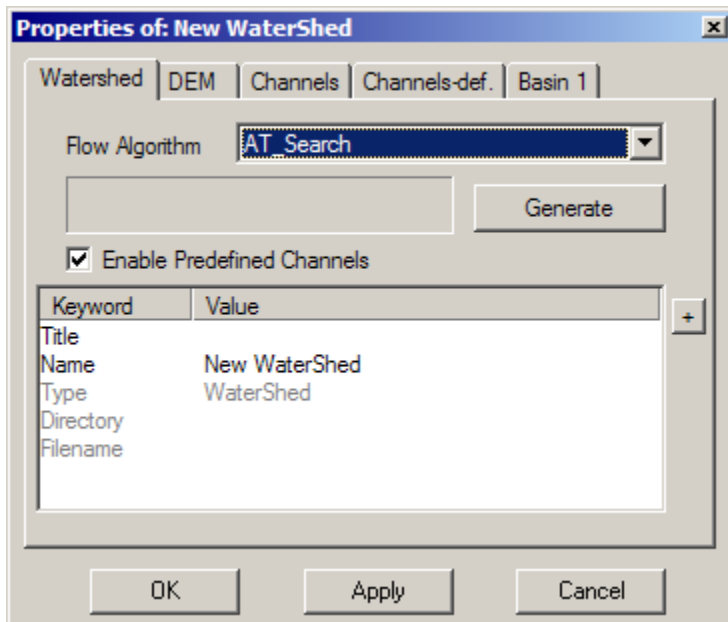

Figure 2.13: The Enable Predefined Channels box makes the Channels-def. tab available
- Click the **Enable Predefined Channels** box on the Watershed Properties dialog. See Figure 2.13 on p. 146 for details.